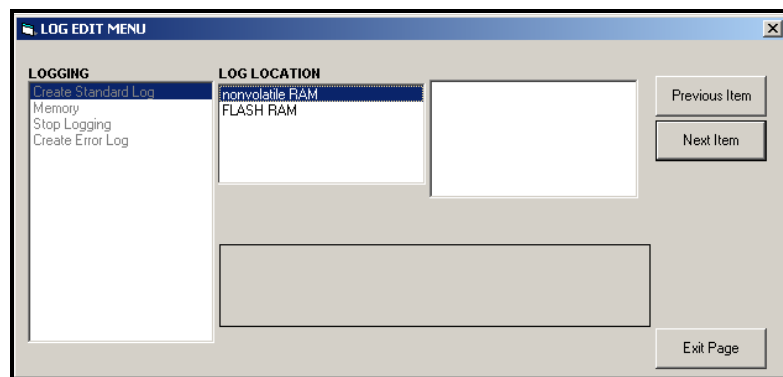

Figure 3-3: Log Location in the Create Standard Log Option
- a. Double-click on the *Create Standard Log* option. The window now appears similar to Figure 3-3 below.